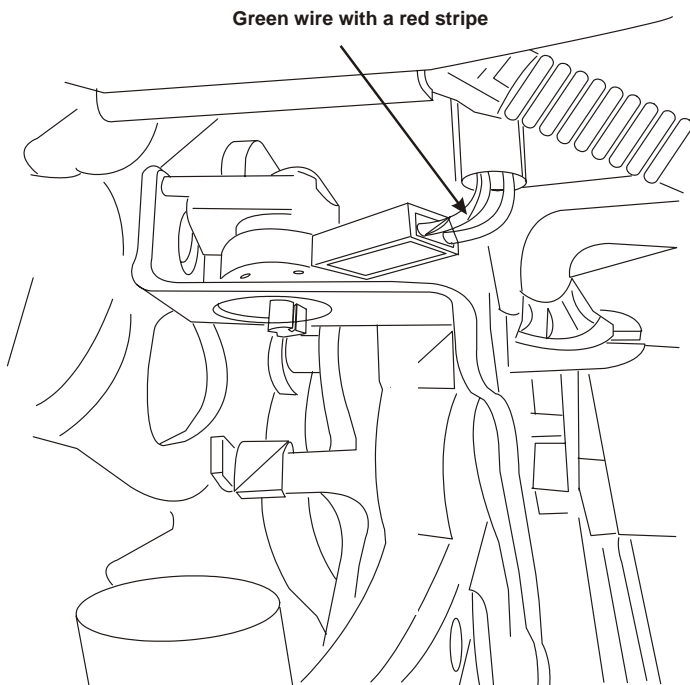

Figure 4.8
- ☐ Solder and seal the black wire from the interface connector to the green with red stripe wire at the park brake (Figure 4.8).
- ☐ Solder and seal the black wire from the DDC to the green with red stripe wire at the park brake (Figure 4.8).